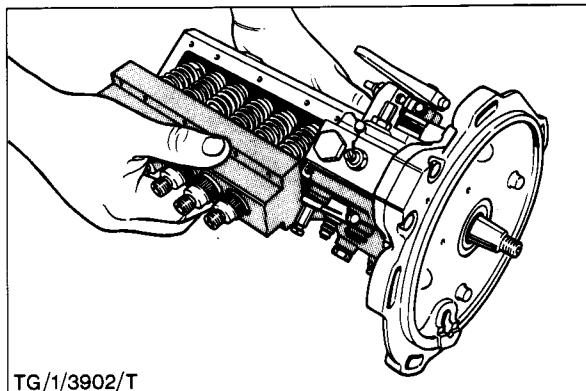

Fig. 29 - Removing the Pump Body
17. Rotate the pump so that the tappet chamber aperture is facing downwards. Rotate the pump body away and downwards as illustrated in Fig. 29 so that the body and plunger assemblies are removed as one unit. As the pump body is rotated the plunger arms should automatically disengage from the control rod forks.